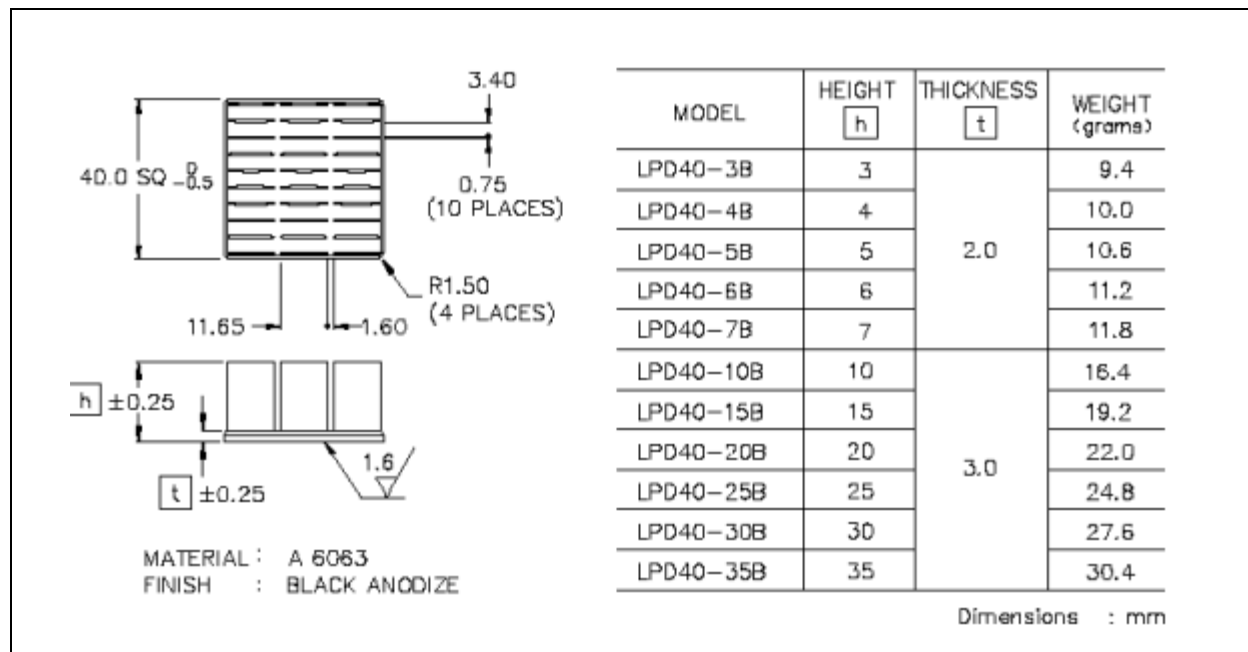

Figure 13-3. 10mm Height Passive Heat Sink (Alpha Novatech, Inc. PN: LPD40-10B)
- Attach the thermocouple at a 90° angle if there is no interference with the thermocouple attach location or leads (see Figure 13-3). This is the preferred method and is recommended for use with packages with heatsinks.